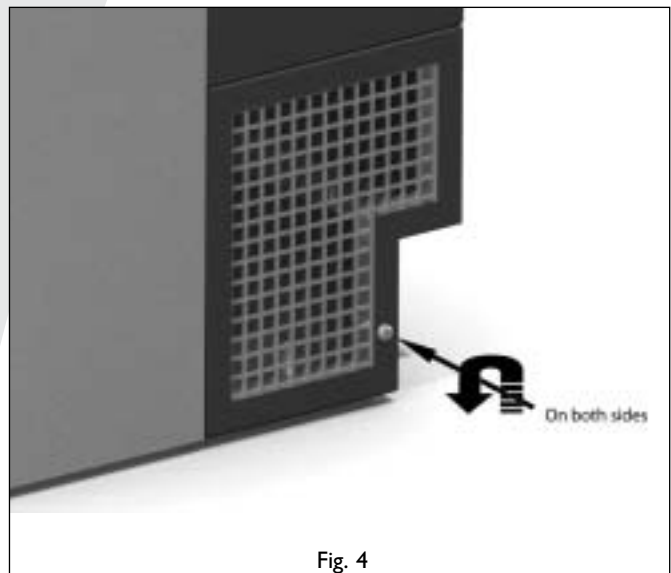

Fig. 4
- Unscrew the screws at both sides of the casing (see fig. 4);